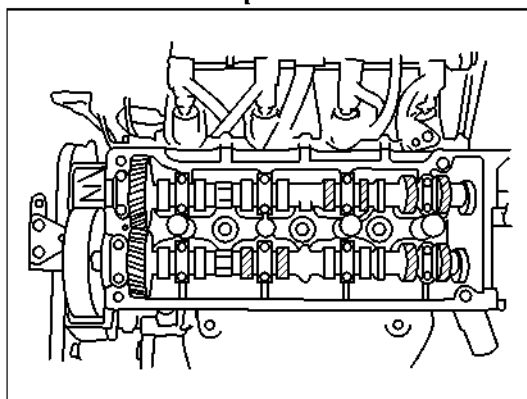

Figure 4-2-14 Check the Valve Clearance
5.6 Recheck the valve clearance. See Figure 4-2-14.